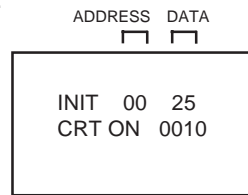

FIG. 1
3. Press both VOL. DOWN button on the set and Channel button **(6)** on the remote control for more than 1 second. ADDRESS and DATA should appear as FIG 1.